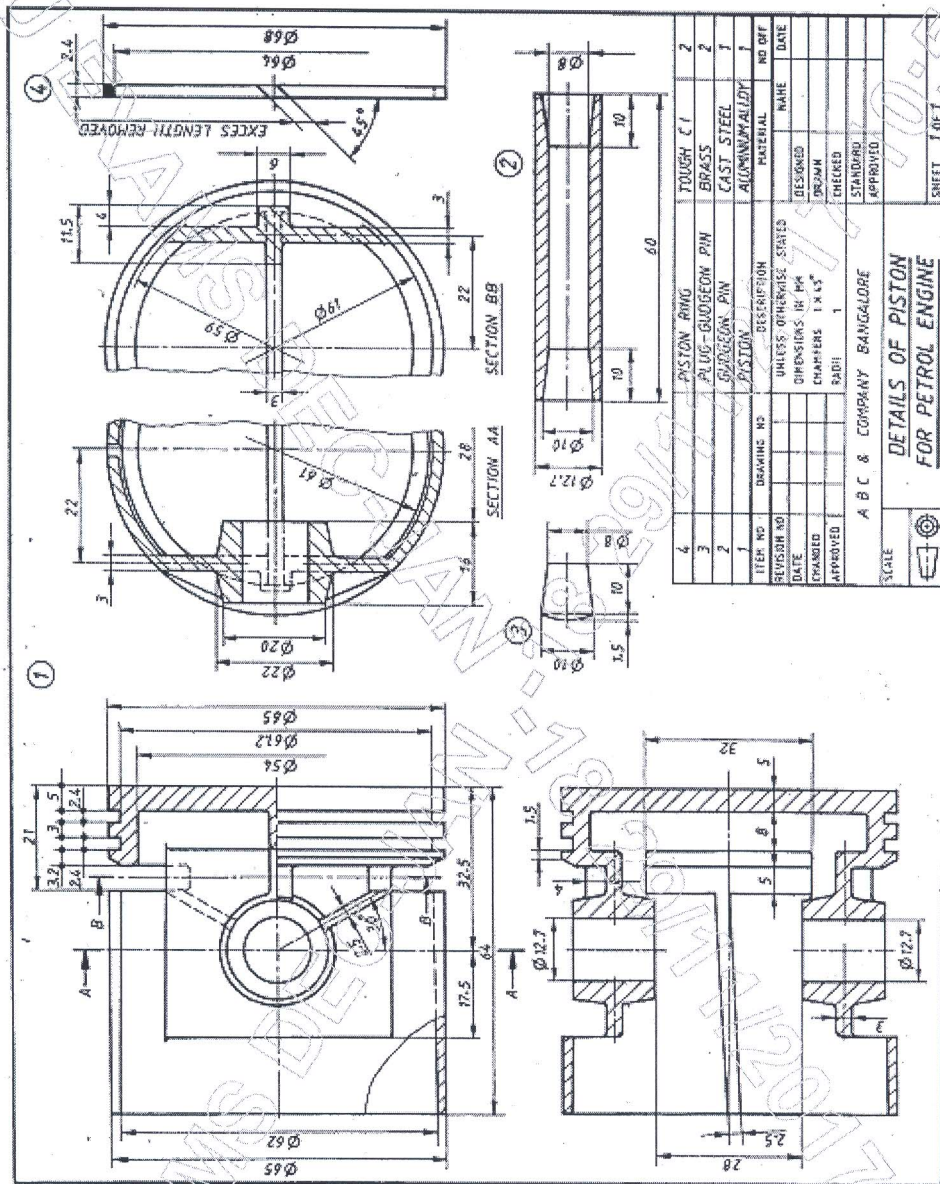

Figure 3
- The details of petrol engine piston is shown in figure 3. Assemble the parts and draw the following views of assembly